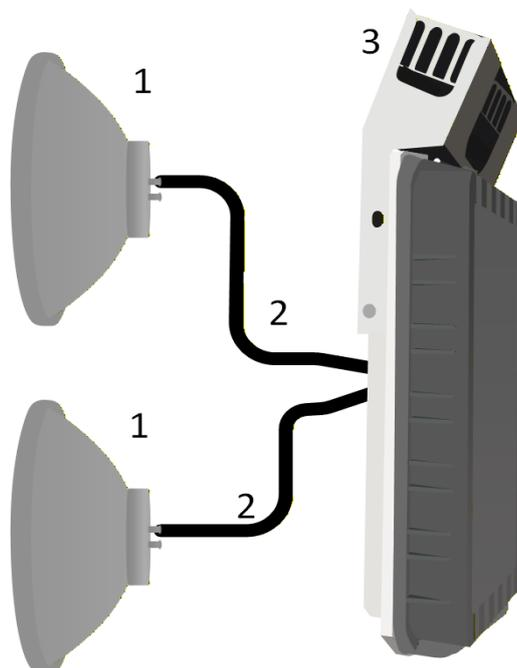

Figure 6-7 1+1 SD connection diagram 4(U) GHz
The 4(U) GHz Integra-X/X2 does not need the tower mountable OMT. It can be directly connected to antennas with a pair of coaxial cables (for more information, refer to Attaching FODU to the antenna). Integra-X/X2 4(U) GHz FODU 1+1 SD connection to the antenna is shown in Figure 6-7 1+1 SD connection diagram. It includes an antenna (1), waveguides (2), and a single FODU (3).